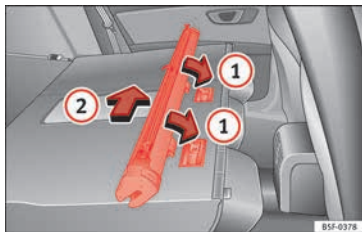

Fig. 168 Assembling the net partition in the rear seat backrests.
- Place the net casing in the rail slots in the direction of the arrows » **Fig. 168 ①**.
- Push the casing towards the left side of the vehicle in the direction of arrow » **Fig. 168 ②** and as far as it will go.
- Pull the net casing out approximately 5 cm in the opposite direction to the arrow » **Fig. 168 ②**.
- Remove the casing from the rails by pulling in the opposite direction to the arrows » **Fig. 168 ①**.